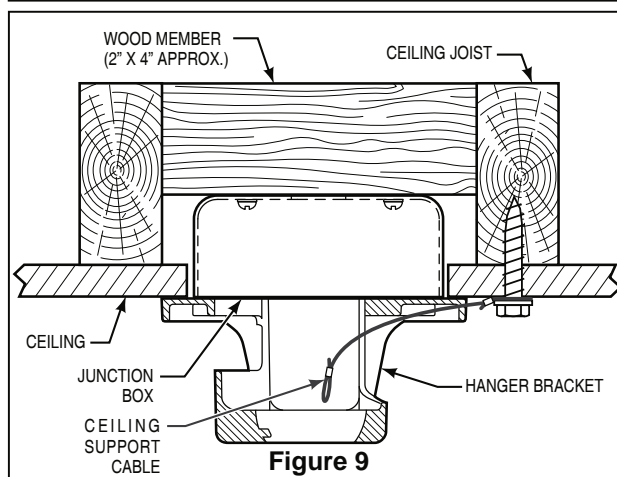

Figure 9
1. Securely attach the hanger bracket to the outlet box using the outlet box screws and washers supplied with the outlet box. (Figure 9)
2. Drill a 1/4" pilot hole into the building structure to prevent splitting or cracking with installation of the lag bolt. Using the 3/8" x 2" lag bolt and flat washer, attach safety cable to ceiling joist or wood structural member. The lag bolt will pass through the flat washer, safety cable loop, and into the building structure. (Figure 9)
NOTE: Ceiling support cable cannot be secured to junction box only, it must be directly secured to ceiling joist or structural member using the 3/8" x 2" lag bolt and flat washer. (Figure 9)